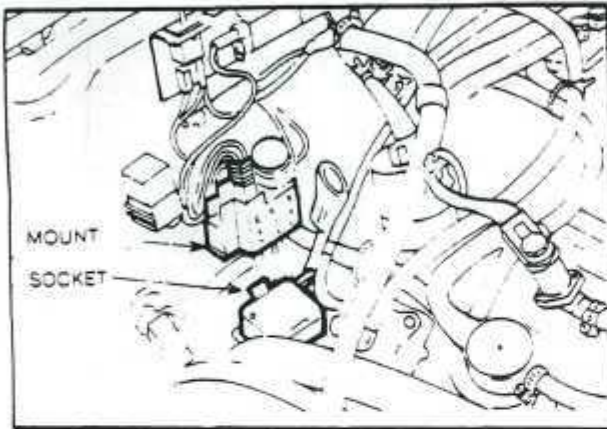

Fig. 26 GOVERNOR COMPUTER WIRING SOCKET AND MOUNT
2. Working in the engine compartment, disconnect the chassis wiring harness from the governor computer wiring socket. *Fig. 26*